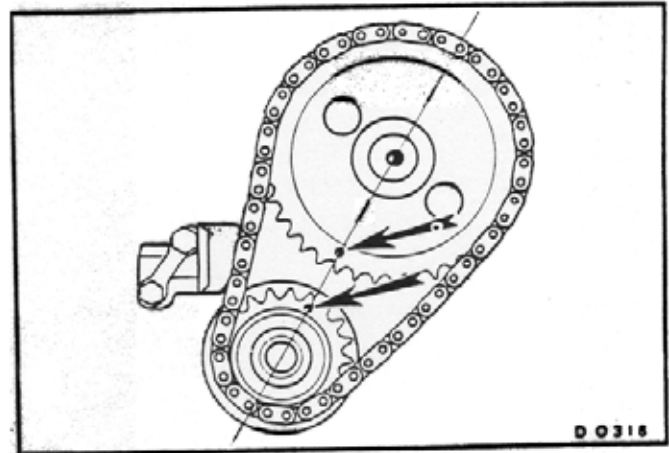

Fig. 1
9. Position the chain wheel timing marks as shown in Fig. 1.
- b. Assemble the chain wheels and chain on the shafts with the timing marks as shown in Fig. 1.